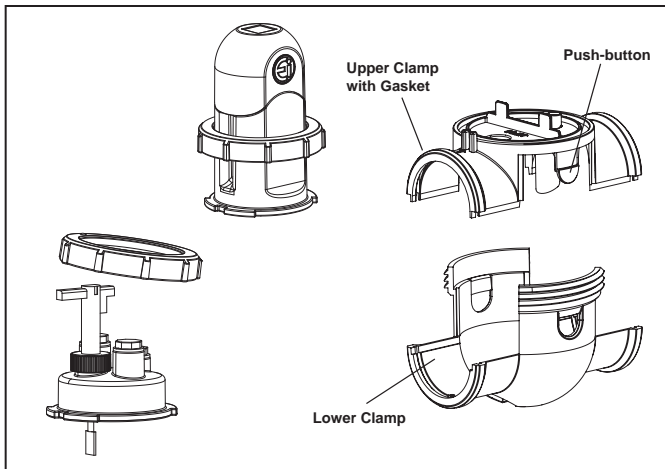

Figure 5. Disassemble the Cell and Pod
4. Unscrew the locking ring from the cell and the pod in order to extract them from the lower clamp (see Figure 5).
5. Press the two (2) push-buttons on either side of the upper clamp to separate the upper clamp from the lower clamp (see Figure 5).